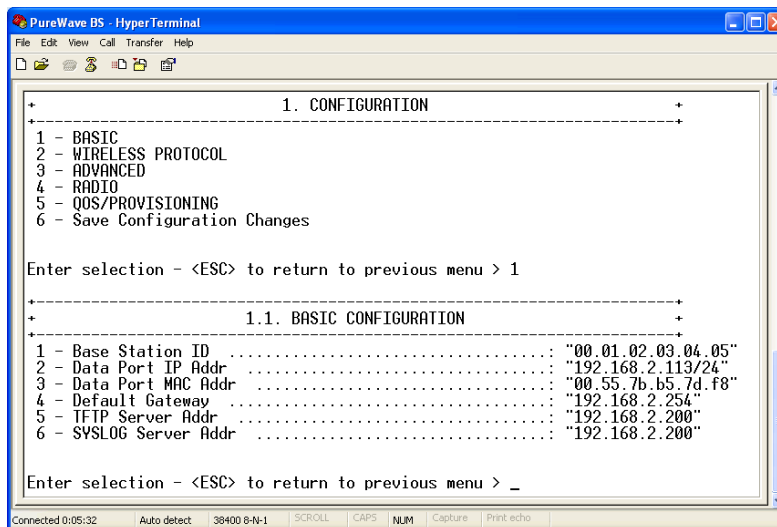

Figure 60 - Base Station CLI Basic Configuration
- 1) Select *1 (CONFIGURATION)* from the menu and follow the steps carefully to configure the Base Station (figure 60).